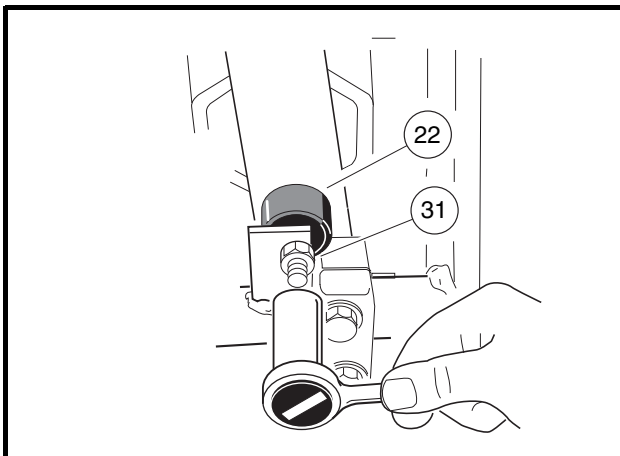
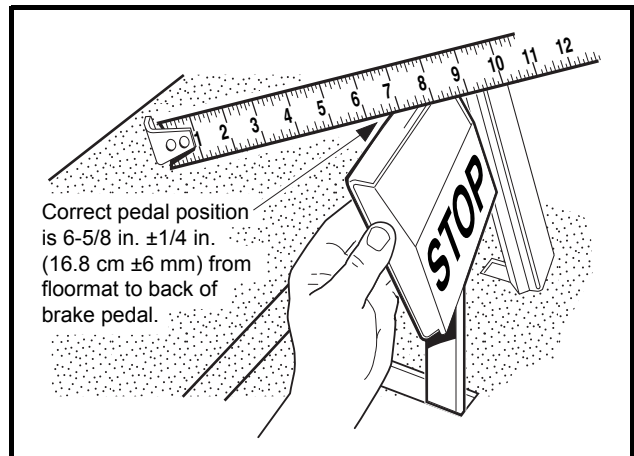

Figure 5-4 Adjust Brake Pedal Height
Figure 5-5 Measure Brake Pedal Height
3. Loosen, but do not remove, the brake stop jam nut (31) (**Figure 5-4, Page 5-3**).
4. Pull the brake pedal toward the rear of the vehicle until the brake stop bumper will not allow the pedal to travel any further (**Figure 5-5, Page 5-3**).
- Adjust the brake stop bumper (22) up to increase the distance between the pedal and the floorboard, or down to increase (Figure 5-4, Page 5-3). Proper brake pedal height is 6-5/8 inches  $\pm$  1/4 inch (16.8 cm  $\pm$  6 mm) (Figure 5-5, Page 5-3).
- Tighten the jam nut (31) to 8 ft-lb (9.5 N-m) (Figure 5-4, Page 5-3).